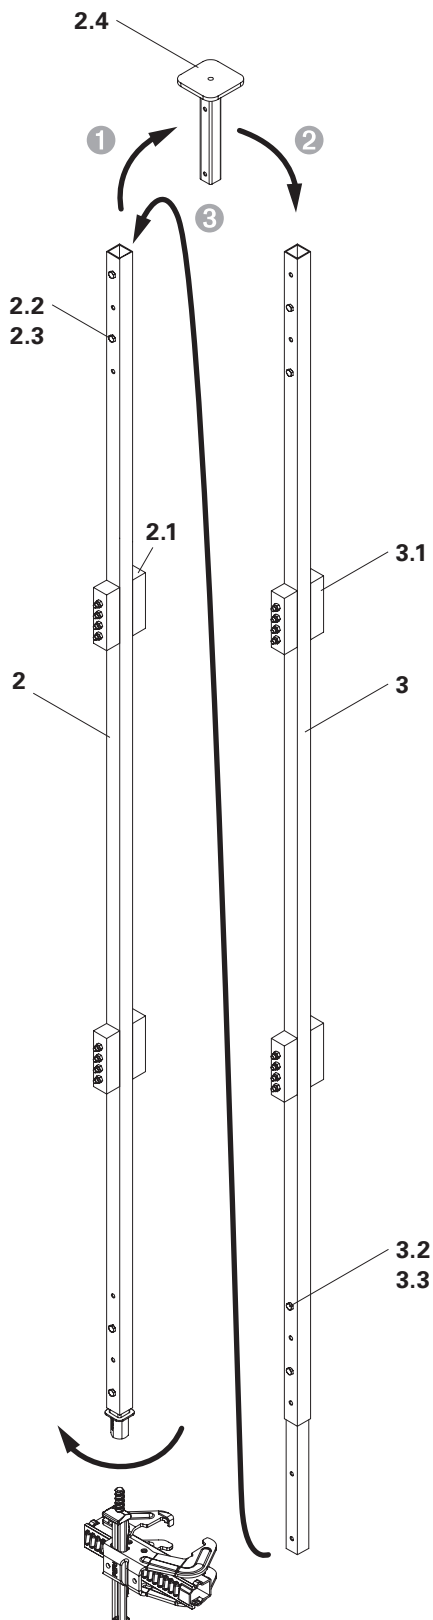

Fig. A3.07
1. Remove Screw ISO4014-M8x45-8.8 (2.2) and pull out Stop MX VS (2.4) from Operate Bar MX VS (2).
2. Fit Stop MX VS (2.4) on Operate Bar MX VS Extension (3). Fasten with Screws ISO4014-M8x45-8.8 (2.2) and Nuts ISO7040-M8-8 (2.3).
3. Fit Operate Bar MX VS Extension (3) on Operate Bar MX VS (2). Fasten with Screws ISO4014-M8x45-8.8 (3.2) and Nuts ISO7040-M8-8 (3.3).
4. For the remainder of the installation process, see Section "Formwork height up to 330 cm" on page 30. (Fig. A3.07)